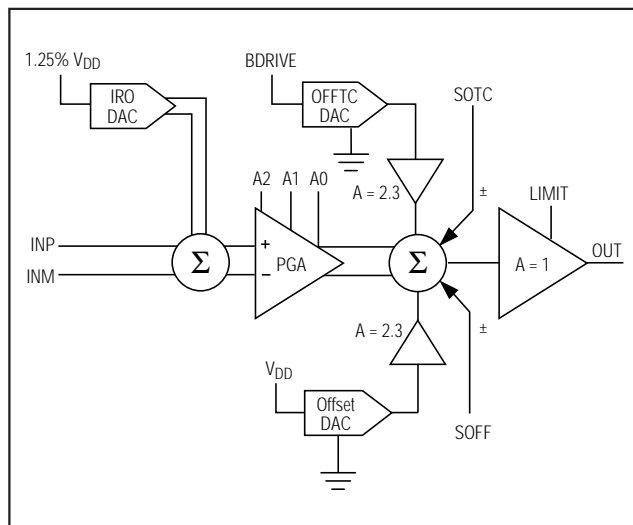

Figure 2. Signal-Path Block Diagram
V_{BDRIVE} that must be added to the output summing junction to correct the error. Use the Offset TC DAC to adjust the amount of BDRIVE voltage that is added to the output summing junction (Figure 2).
- Differential to single-ended output buffer (Figure 2)